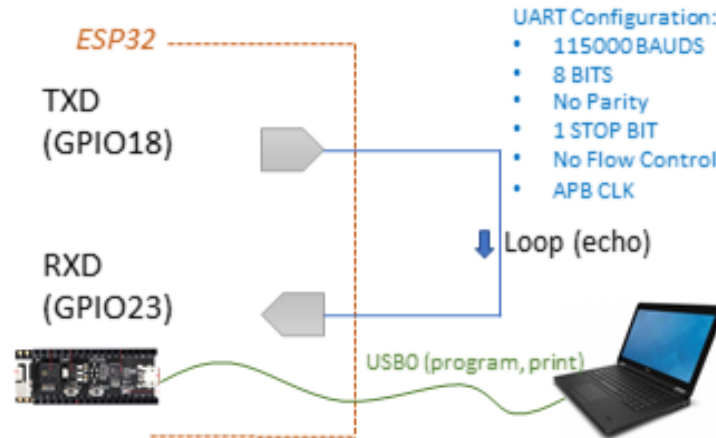

FIGURE 3.1 – *Echo application.*
4. Complete the code for the UART configuration depicted in the figure 3.1. Help you of the `uart_config_t` type of from Visual Studio Code and from the UART Web help